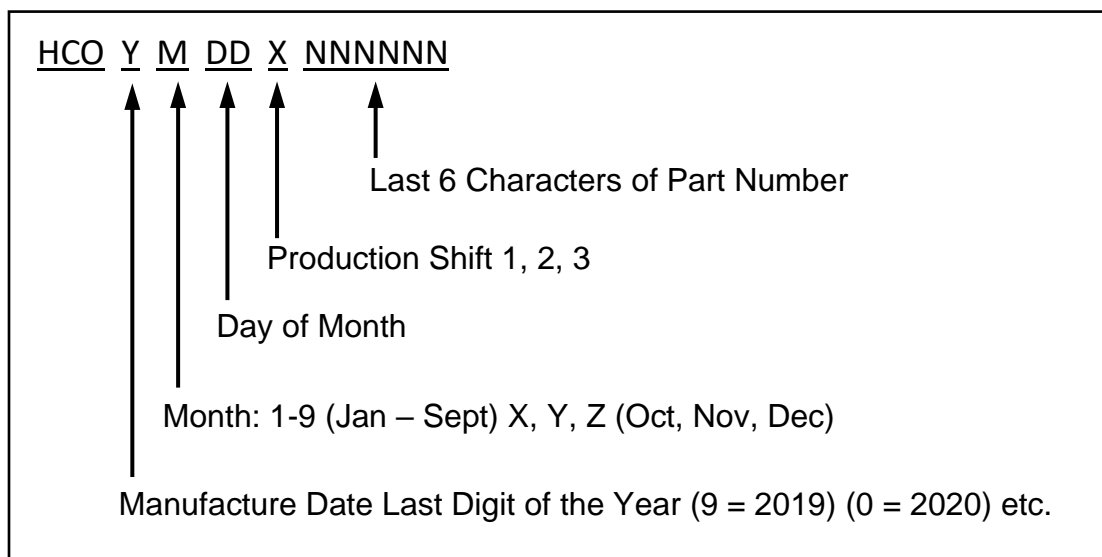

Figure 2 – Julian Data Code Format
3. For deciphering the Julian Data Code refer to (Figure 2).